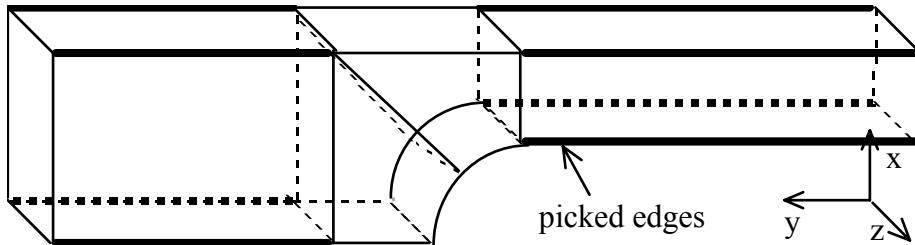

Figure 3.6. Eight collected edges for five subdivisions with a 4:1 ratio.
Step 7: Select **Subdivide Edges**, collect the edges shown in Figure 3.6. Some of the edges will need to have their subdivision ratio reversed; we want the smaller segments near the arcs. Select **Reverse Ratio** from the **SUBDIVIDE EDGES** menu and pick any edges that should be reversed. Select **FINISH** when all the edges are collected with the correct subdivision ratio.